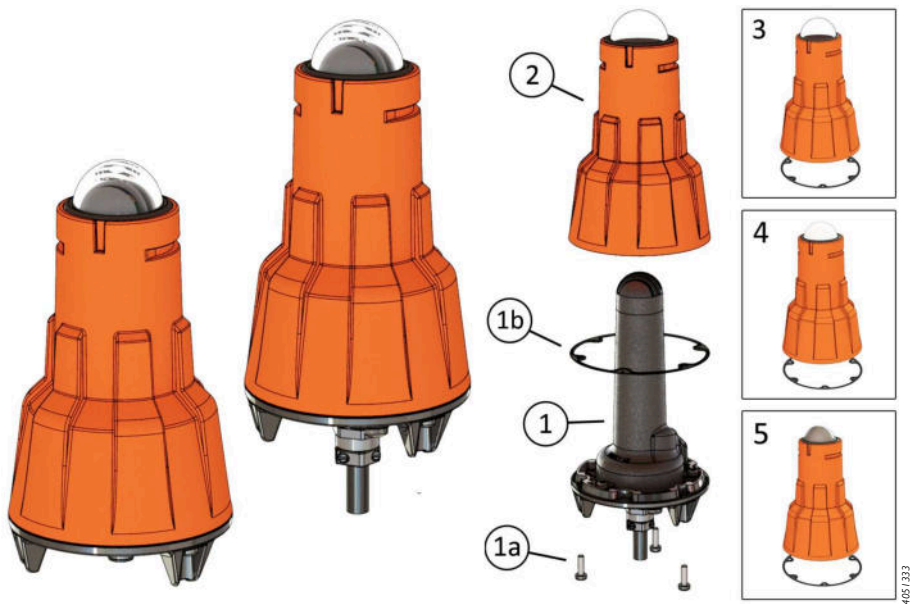

Figure 19 Spare parts
To assemble the casing, lens and gasket (Pos 2, 3, 4 and 5 in *Figure 19*) follow the instructions below.
1. Use the circlip pliers to remove the detector cover gasket (Pos 1b *Figure 19*)